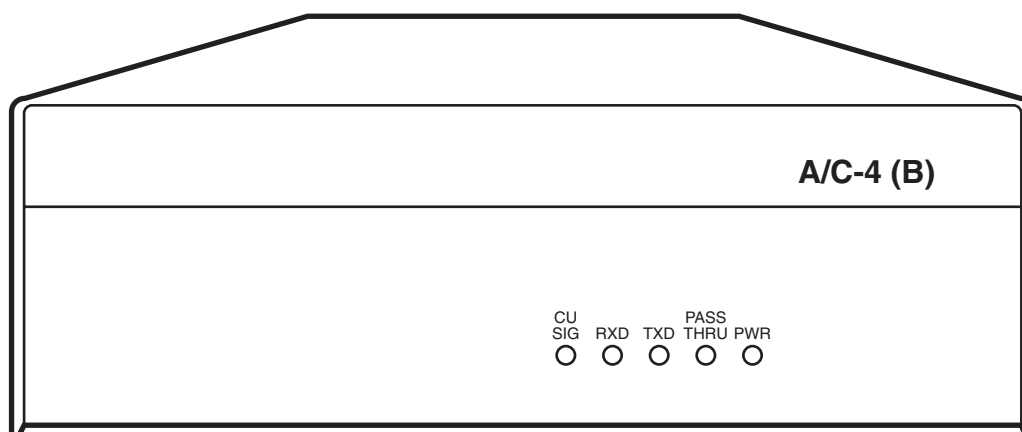

Figure 1-1. A/C-4 (B) Unit.
- **Emulation** — All A/C-4 (B) models provide the same 3278 emulation functions.
- **Type** — The Standard and Deluxe models are both standalone units, as illustrated in Figure 1-1.
1.1 How the A/C-4 (B) Works During 3278 Emulation